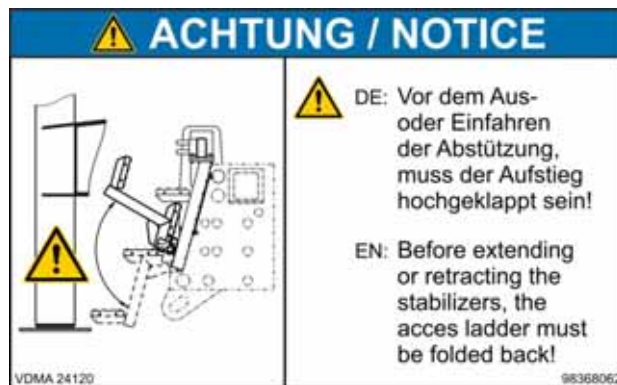

Fig. 50 Folding steps
- Move all foldable equipment (e.g. steps, (Fig. 50 Folding steps)) into the transport position.